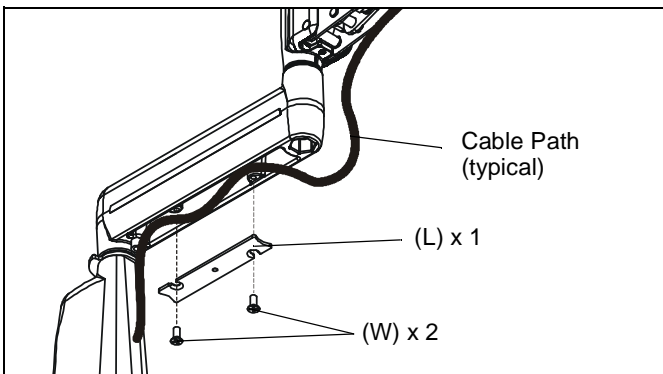

Figure 54
- Carefully insert cables in cavity located in lower portion of mount arm. (See Figure 54)
- Using Phillips screwdriver, install cover (L) with two #8-32 x 3/8" Phillips flat screws (W). (See Figure 54)